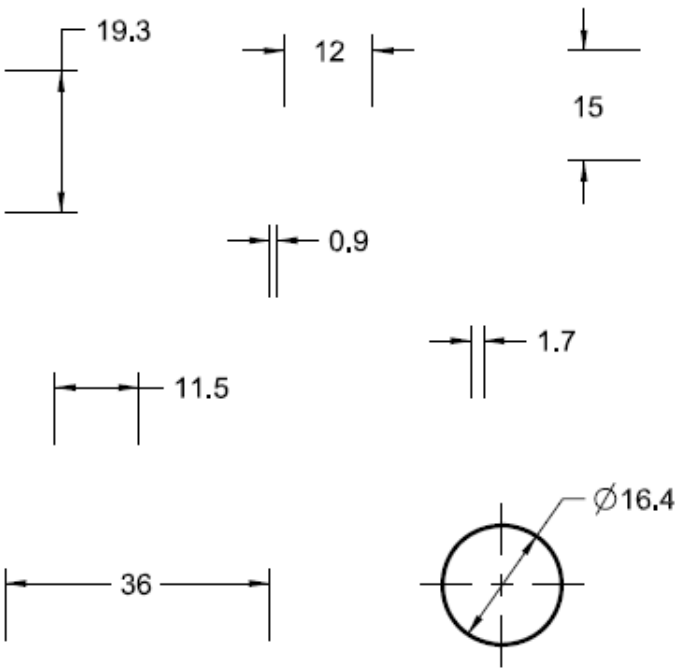

Figure 2 Preview of Millimeter dimensioning
1. Where the dimension is less than one millimeter, a zero precedes the decimal point, refer to Figure 2.
2. Where the dimension is a whole number, neither the decimal point nor zero is added, refer to Figure 2.
3. Where the dimension exceeds a whole number by a decimal fraction of one millimeter, the last digit to the right of decimal point is not followed by zero, refer to Figure 2.